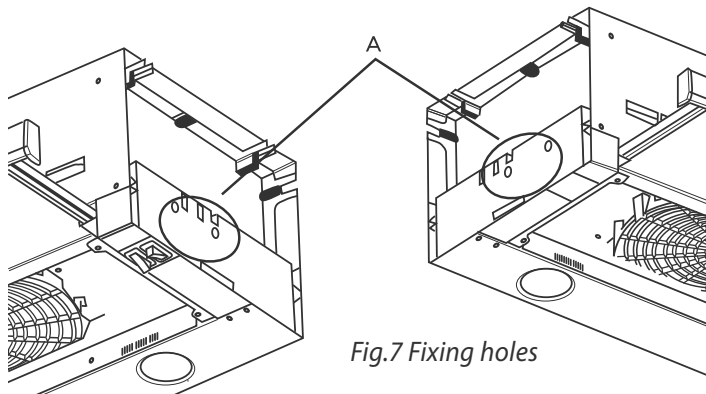

Fig.7 Fixing holes
- 1 Slide out the drawer and remove filter. You will see two mounting holes running through the moulded sides (see Fig.7).
- 2 Remove the thin plastic skin (A) from each side fixing hole. An 8 mm diameter drill bit is recommended.